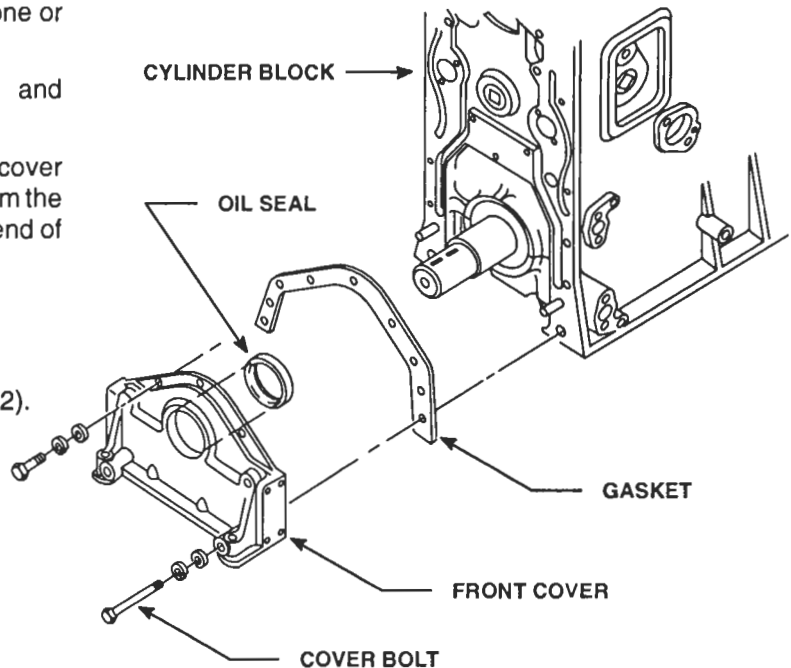

Figure 1. Crankshaft Front Cover
4. Remove the cover attaching bolts and washers (Figure 1.)